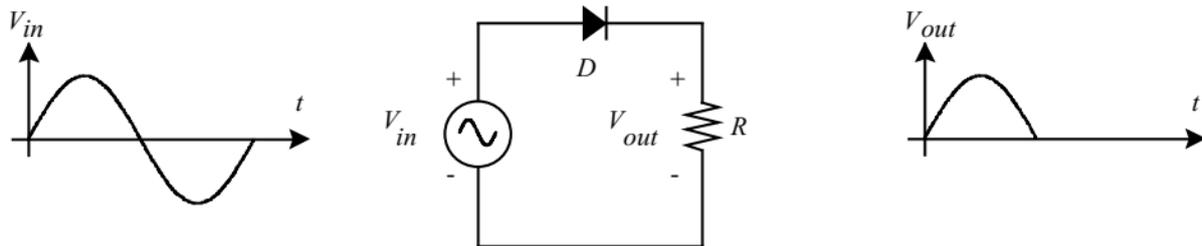

Figure 1 Half wave rectifier
The primary function of half-wave and full-wave rectification systems is to establish a DC level from a sinusoidal input signal that has zero average (DC) level. The half-wave voltage signal of Fig.1, normally established by a network with a single diode, has an average or equivalent DC voltage level equal to 31.8% of the peak voltage V_m .